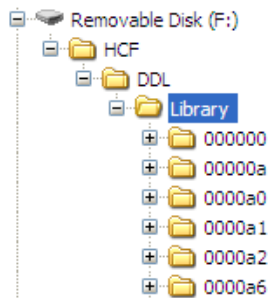

Figure 2-18: HART® Device Library Folder Structure
2. Make sure the HCF folder is in the root directory of the USB flash drive. The necessary directory structure on the USB flash drive is in Figure 2-18.
3. Copy the HCF folder into the root directory of the DPI620G USB flash memory device. The necessary directory structure on the DPI620G USB flash memory device is in Figure 2-18.